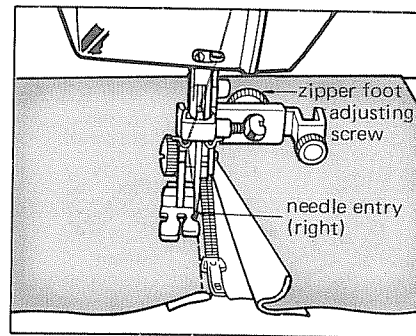

Fig. 2
Loosen the thumb screw (B) to set the foot on the left side of the needle, and sew the left side zipper as shown (Fig. 2).